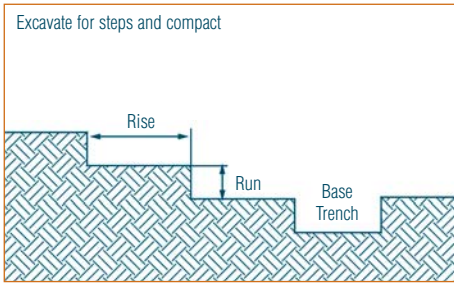

Figure 18: Step 1
The steps (figures 18 - 22, left) are general guidelines for building steps.
Our example (figures 18 - 22, left) uses a base trench of 150mm and a step tread of AB cappers and pavers.
- Excavate to the necessary depth and width for each step riser (figure 18) and thoroughly compact the entire area with a mechanical plate compactor.